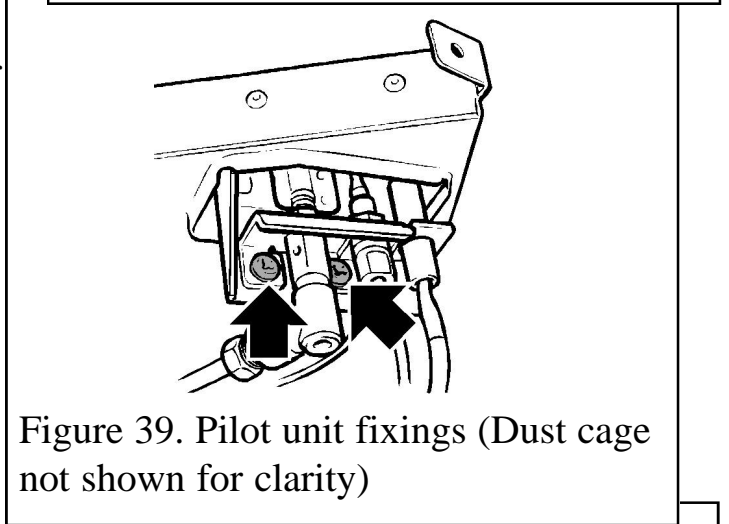

Figure 39. Pilot unit fixings (Dust cage not shown for clarity)
- Remove the first screw securing the dust cage to the pilot unit & burner (See figure 39). Carefully remove the dust cage and place aside.